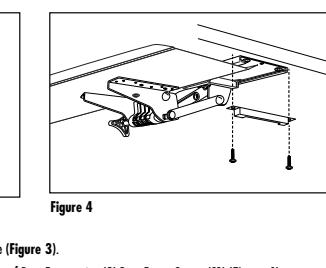

Figure 4
8. Swing Arm Assembly to the side and mount Bracket (T) to front of Base Frame using (2) Base Frame Screws (M) (Figure 4).
9. The Wrist Rest (E) can be mounted at the front of the platform by removing the backing from the bottom and pressing it firmly into position.
8. Placez l'ensemble sur un sol et mettez la fixation (T) à l'avant du châssis à l'aide de (2) vis de la monture (Figure 4).